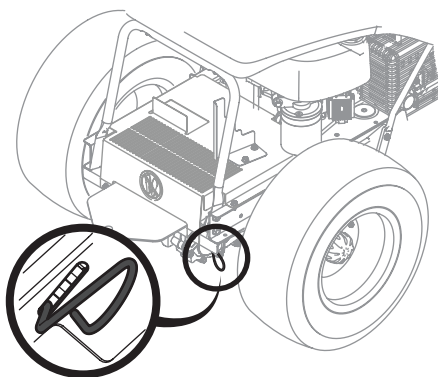
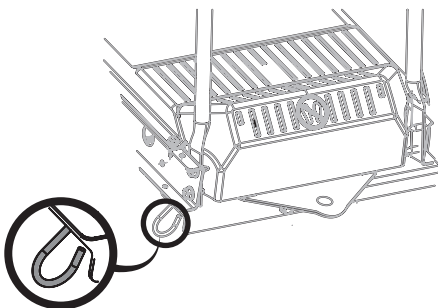

Figure 1
Figure 2
1. Engage the transmission bypass rod to move the riding mower manually without starting it. The transmission bypass rod is located on the inside of the left tire near the rear of the riding mower. Engage the bypass rod by pulling out (Figure 1 for Hydro transmission and Figure 2 for Tuff Torq Transmission.)
2. Disengage the bypass rod by pushing the rod back in after moving the riding mower (Figure 1 and Figure 2).